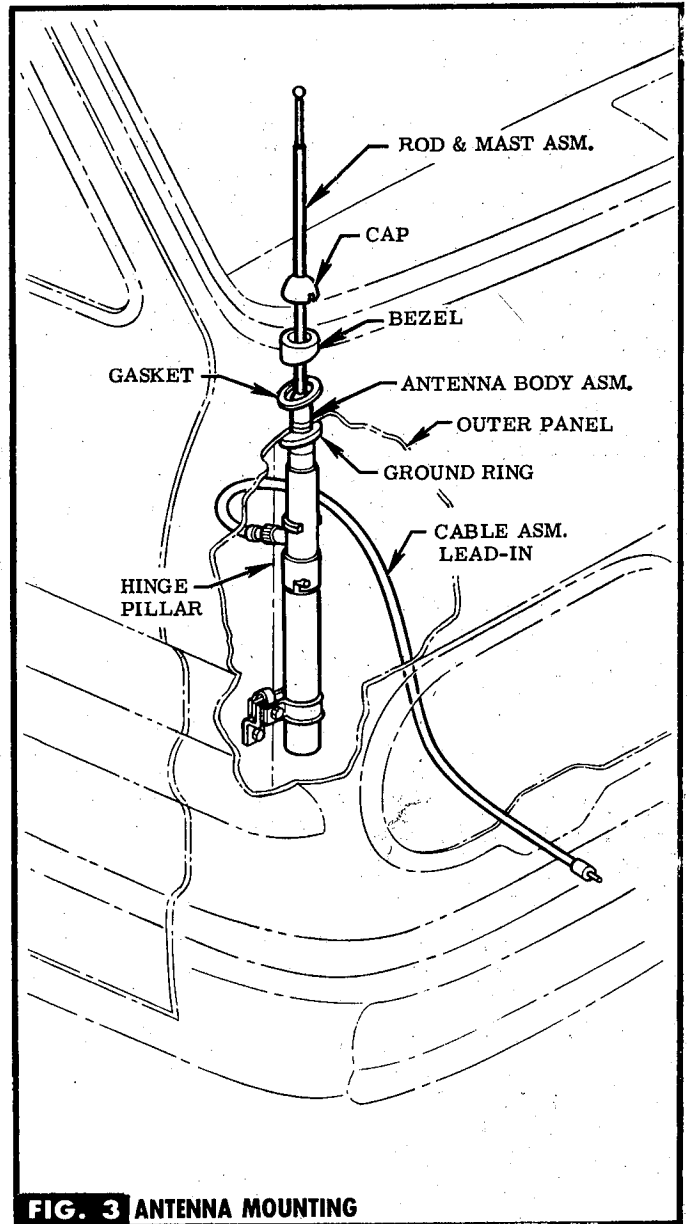

FIG. 3 ANTENNA MOUNTING
STEP 7 ATTACH CABLE ASM. TO ANTENNA BODY. INSERT ANTENNA ASM. THRU HEADLAMP OPENING & UP THRU HOLE IN OUTER PANEL. TURN ANTENNA ASM. SO THAT CABLE COUPLING IS TO R.H. SIDE OF CAR & NEARLY TOUCHES HINGE PILLAR. ROUTE CABLE ABOVE COUPLING & BEHIND ANTENNA. ALIGN GROUND RING TO BEAR UNIFORMLY ON PANEL INSIDE SURFACE. SEE FIG. 3.
STEP 8 HOLDING THE ANTENNA ASM. IN PLACE, SLIP GASKET, BEZEL & CAP OVER ROD & MAST ASM. & ONTO THE OUTER PANEL. ALIGN GASKET & BEZEL TO BEAR UNIFORMLY ON THE OUTSIDE PANEL SURFACE & SECURE CAP WITH SPANNER WRENCH. SEE FIG. 3.